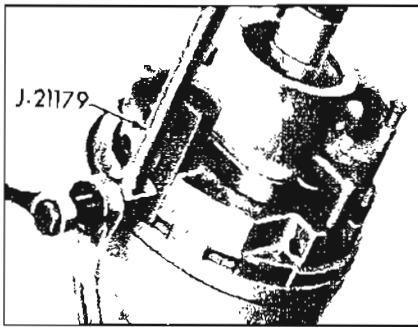

Figure 8-84—Removing Pivot Pin
11. Remove the two pivot pins with Remover J-21179. See Figure 8-84. Thread stud of J-21179 into pin. Position remover as shown so that shift lever bowl will not be damaged. Hold stud and turn nut to remove pin.